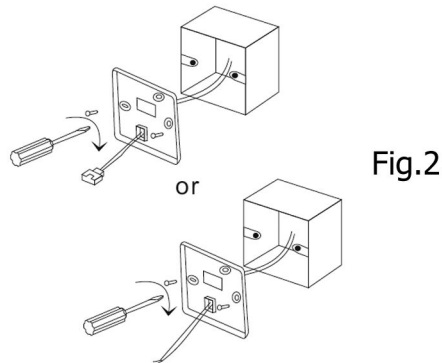

Fig.2
3. As shown in Fig.2, fix $\phi 4 * 20\text{mm}$ screws provided together with the back cover on 8x6 box, then pass lead wires through the back cover.